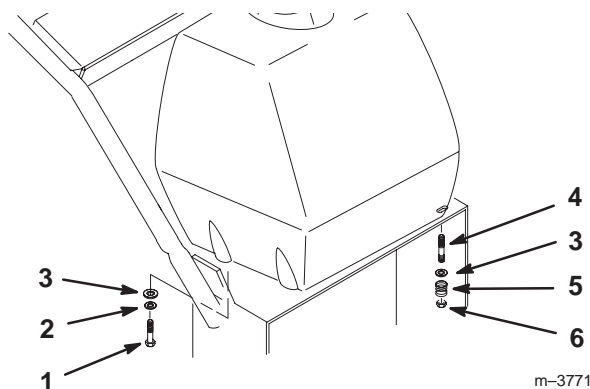

Figure 10
1. Align the fuel tank to the top of the rear frame, and secure the right side of the fuel tank with 2 bolts (5/16 x 3/4 in.), 2 lock washers (5/16 in.), and 2 washers (5/16 in.) (Fig. 10).
2. Secure the left side of the fuel tank to the frame with 2 studs (5/16 x 7/8 in.), 2 washers (5/16 in.), 2 springs, and 2 locknuts (5/16 in.) (Fig. 10).